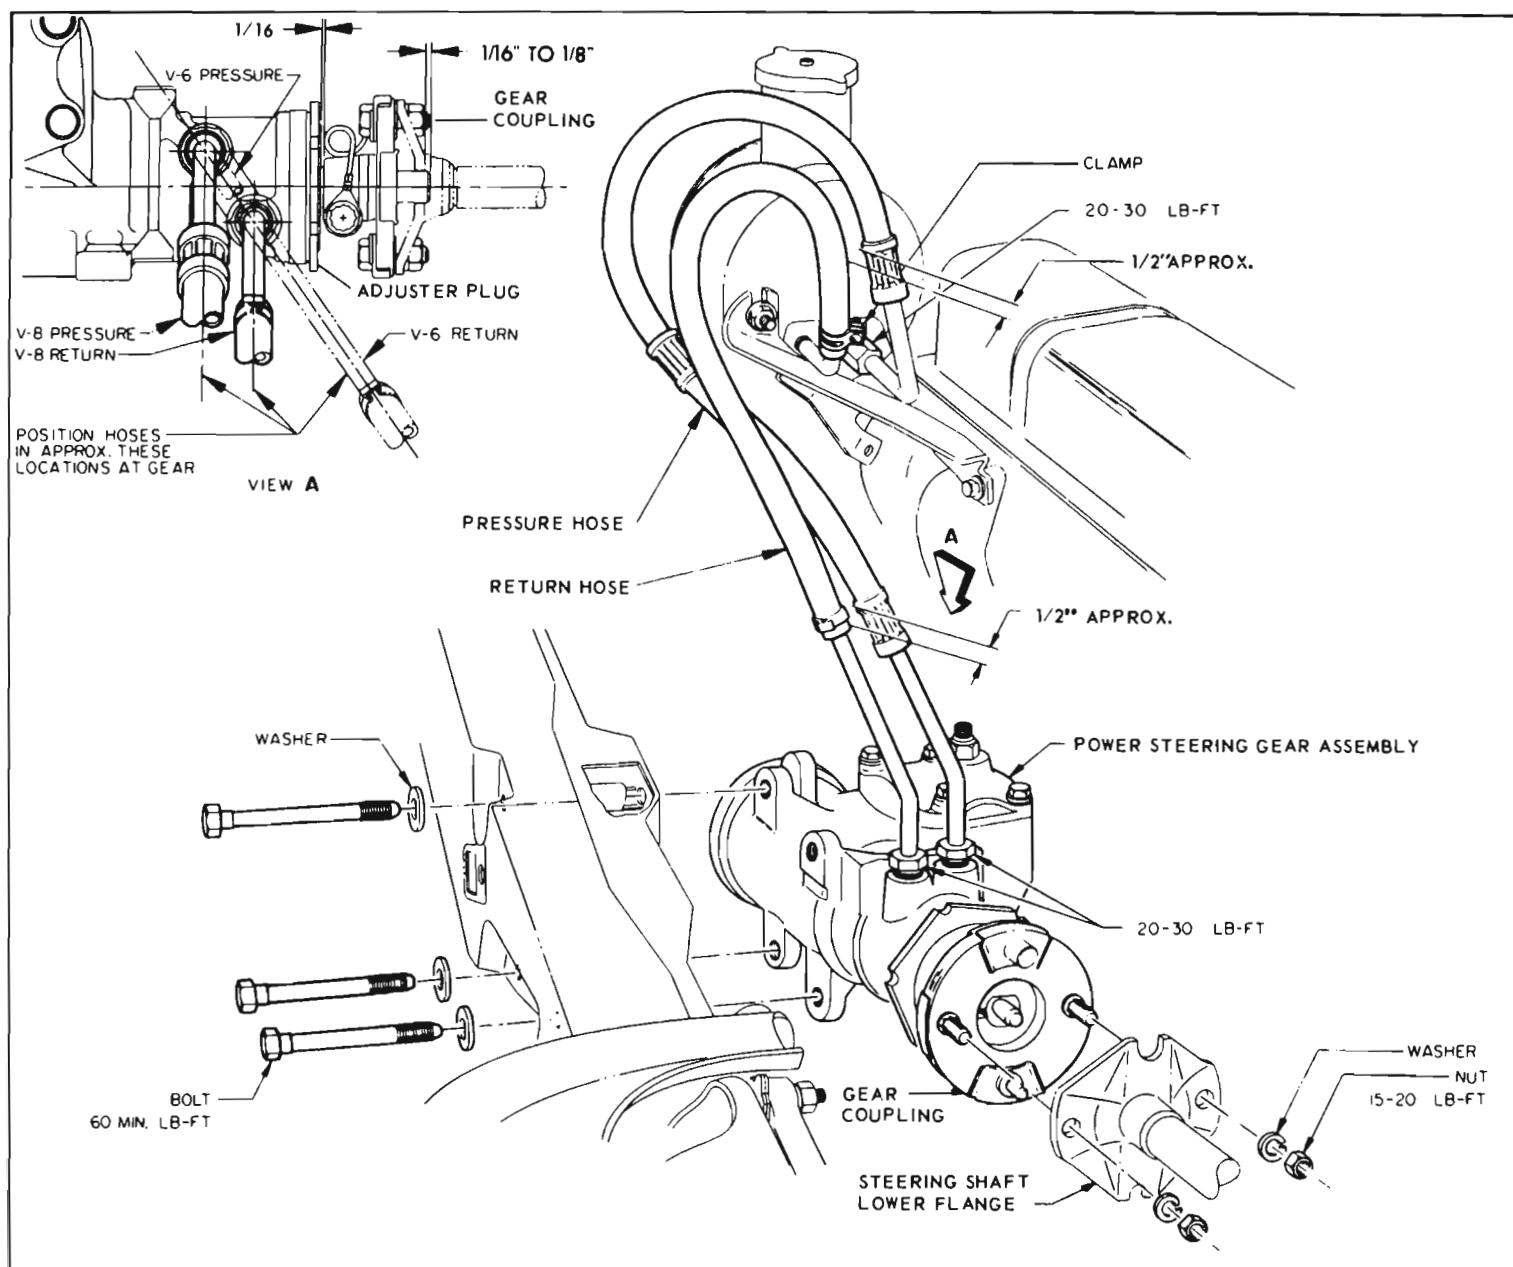

Figure 8-31—Power Steering Gear Installation
3. Remove two nuts securing gear coupling to steering shaft lower flange. See Figure 8-31.
1. Install the gear assembly by reversing the procedure for removal. See Figure 8-31 for tightening specifications. Torque pitman nut 100-140 lb. ft. Torque lower coupling pinch bolt 20-35 lb. ft. Be sure there is 1/16" clearance between adjuster plug and gear coupling (see Figure 8-31).